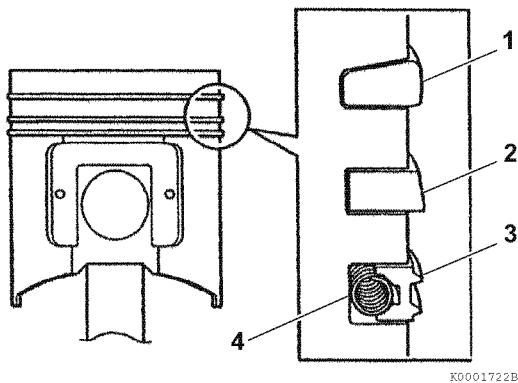

Figure 6-47
12. Remove the compression rings (1, 2, **Figure 6-47**) from the piston using a piston ring expander.
13. Remove the oil ring (3, **Figure 6-47**) and oil ring expander (4, **Figure 6-47**) from the piston using a piston ring expander.